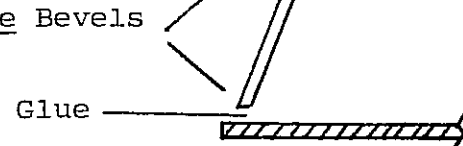

FIGURE: 12
Refer to Figure 12 and assemble tower wall section 3-B, and plywood sides.
Identify the proper orientation of the beveled edges as shown in Figure 12.
- 27) Position these 2 roof sections as shown in Figure 12 and tape together into position using the flaps from the front roof.
- 29) Apply a generous bead of glue to the top of the roof sections just installed and place the top roof into position as shown in Figure 12.